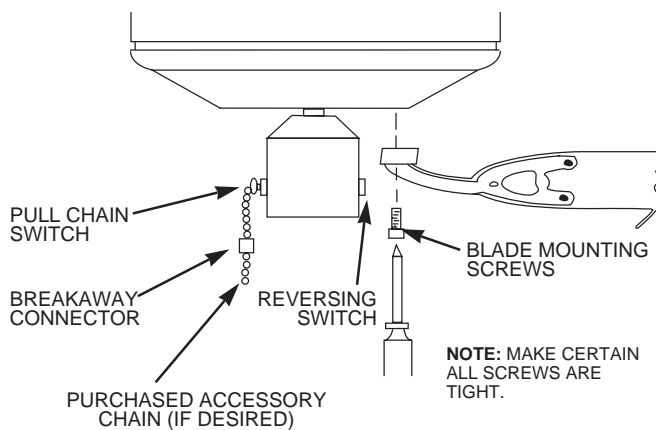

FIGURE 9
B. Remove the screws and rubber bumpers from the motor hub. Insert a mounting screw (provided) in hole in blade bracket. Use a screwdriver to hold in place. Align blade holes with mounting holes in hub by turning screw and readjusting blade bracket until screw mates with threaded hole in hub. Do not tighten until both screws have been put in blade bracket. Repeat for all blades. See Figure 9.
B. Switch operates in this sequence: “High,” “Medium,” “Low,” “Off.” Pull chain slowly to operate. Also, release the chain slowly so as to prevent chain from flying up into blades, possibly resulting in damage to blades, or pull chain. The break-away connector is designed to separate from the chain at a pre-determined force. If this separation occurs, simply reinsert the connector. It can be reused again and again. See Figure 9.
C. Motor is electrically reversible. When first operating fan, determine direction of air flow. If you wish to change direction, switch fan off and allow to stop. Slide reversing switch to the opposite position and switch fan back on. See Figure 9.